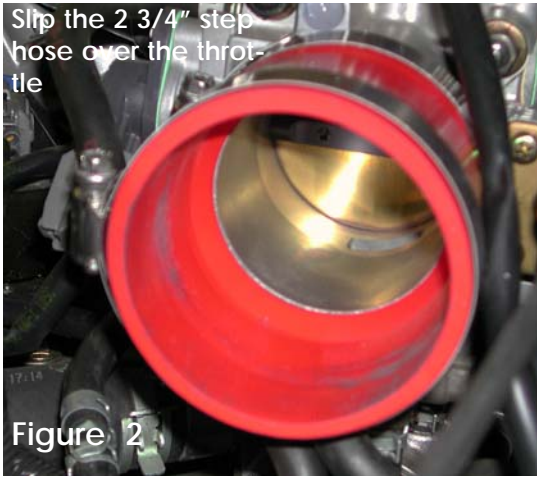

Figure 2
4. Place the 2 3/4" step hose over the throttle body and use two clamps. Tighten the clamp on the throttle body at this point. See fig. 2